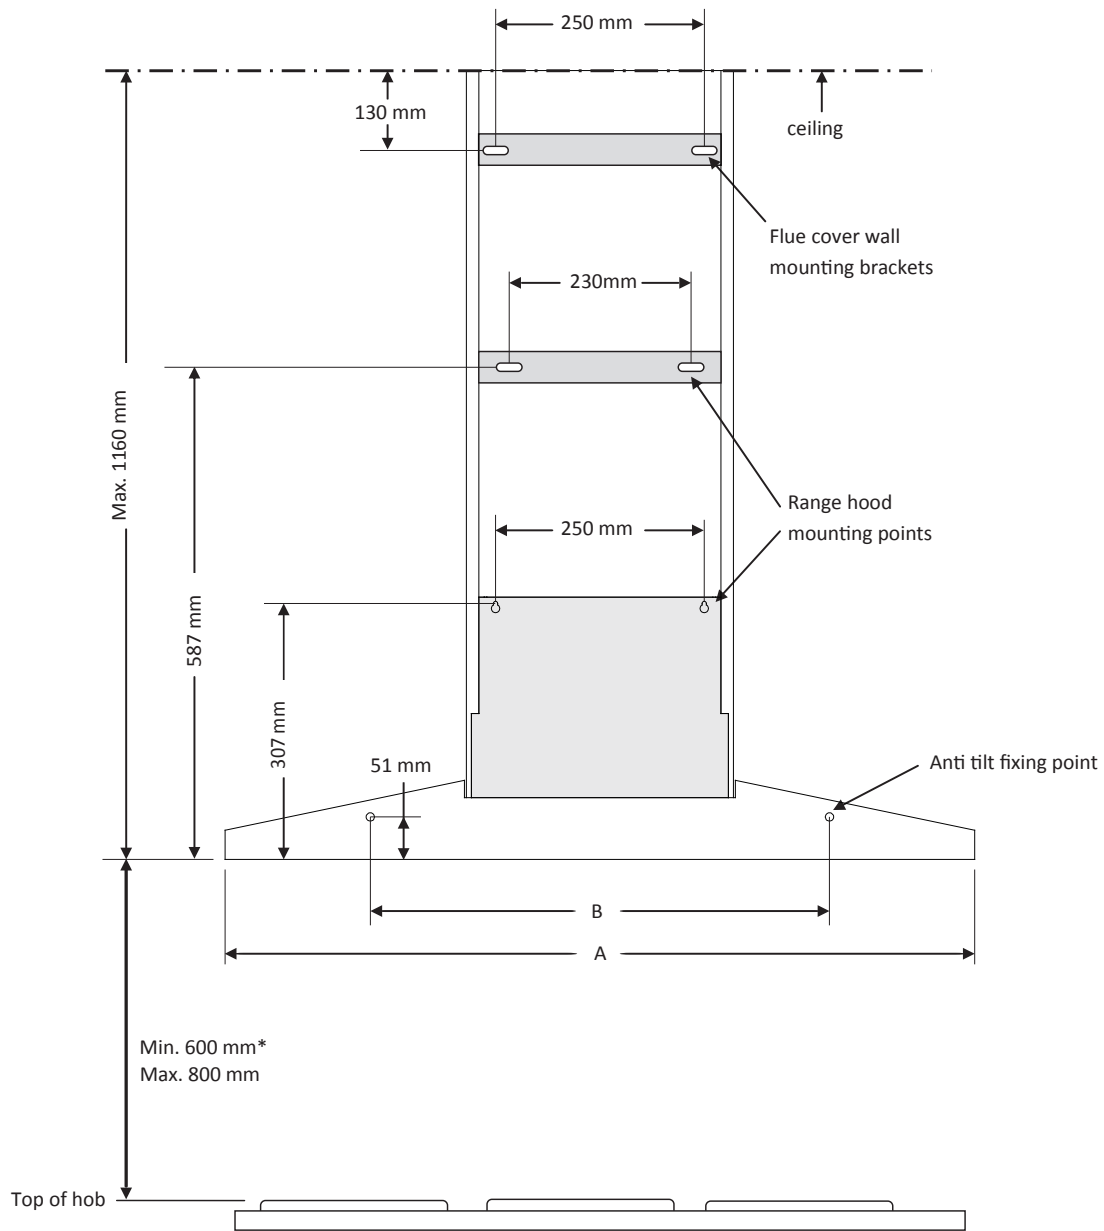

Fig. 6
5. Hang the body hood on the mounting screws then secure at the anti-tilt locations as indicated in Fig. 6 & 7.